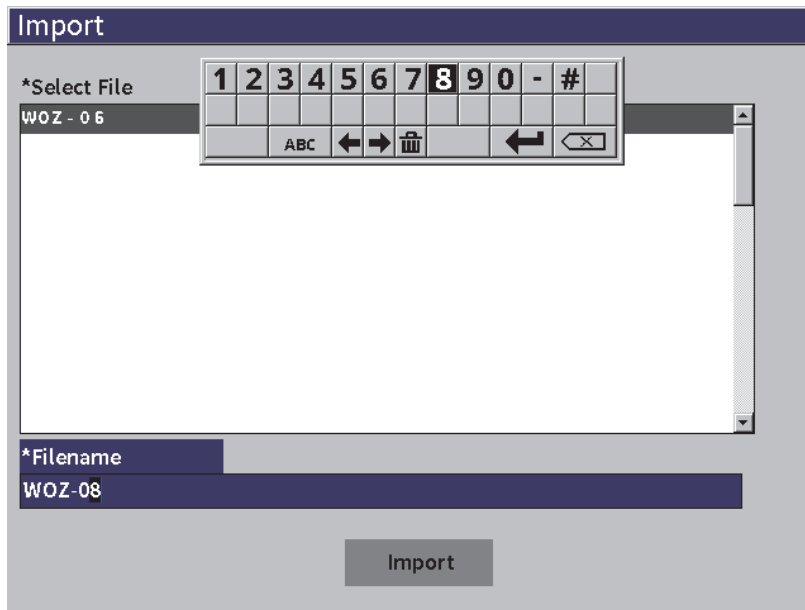

Figure 9-33 Import (video file) setup page
5. To import the selected file under a different name, enter a new file name (up to 32 characters) using the virtual keypad, adjustment knob, and the Enter key (see Figure 9-33 on page 162).